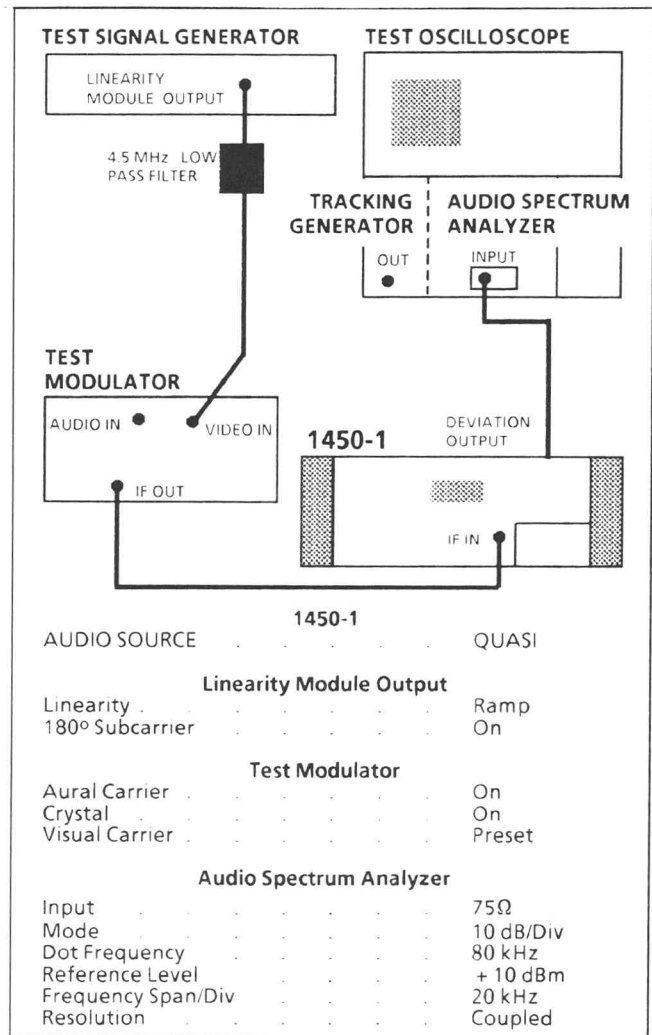

Fig. 4-66. Setup for adjusting Q-P limiter.
- a. Connect and set the test equipment as shown in Fig. 4-66.